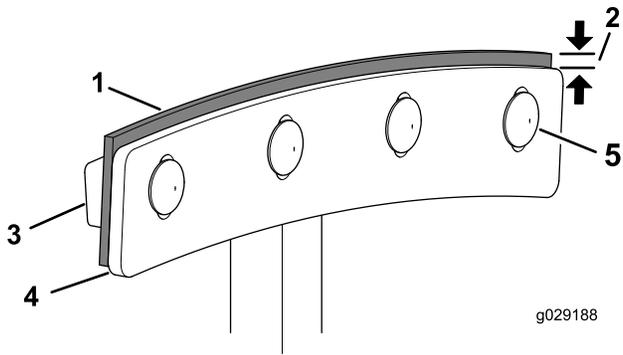

Figure 45
5. Adjust the rubber wipers to be close to the drum wall and position the metal paddle blades so that the outer edge is 3 to 6 mm (1/8 to 1/4 inch) from the outer edge of the wipers (Figure 45). Tighten the nuts and bolts to secure the blades to the paddles.